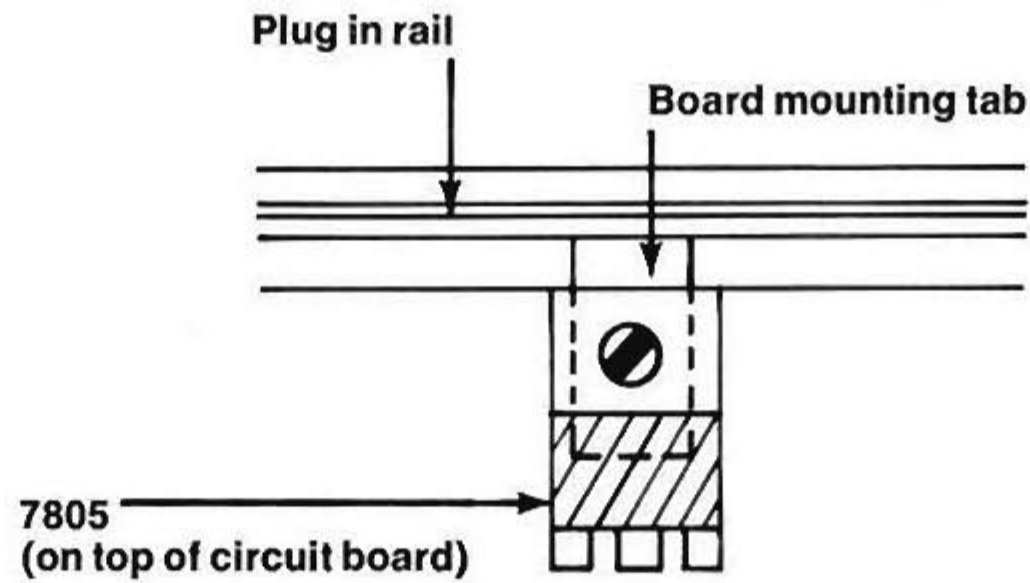

Figure 1
3. The 7805 regulator may be heat sunk by mounting as shown in Figure 1. This amount of heat sinking will be adequate for use as a test unit and for general use as an auxiliary power supply in most environments. For heavy duty service, additional heat sinking may be desirable.